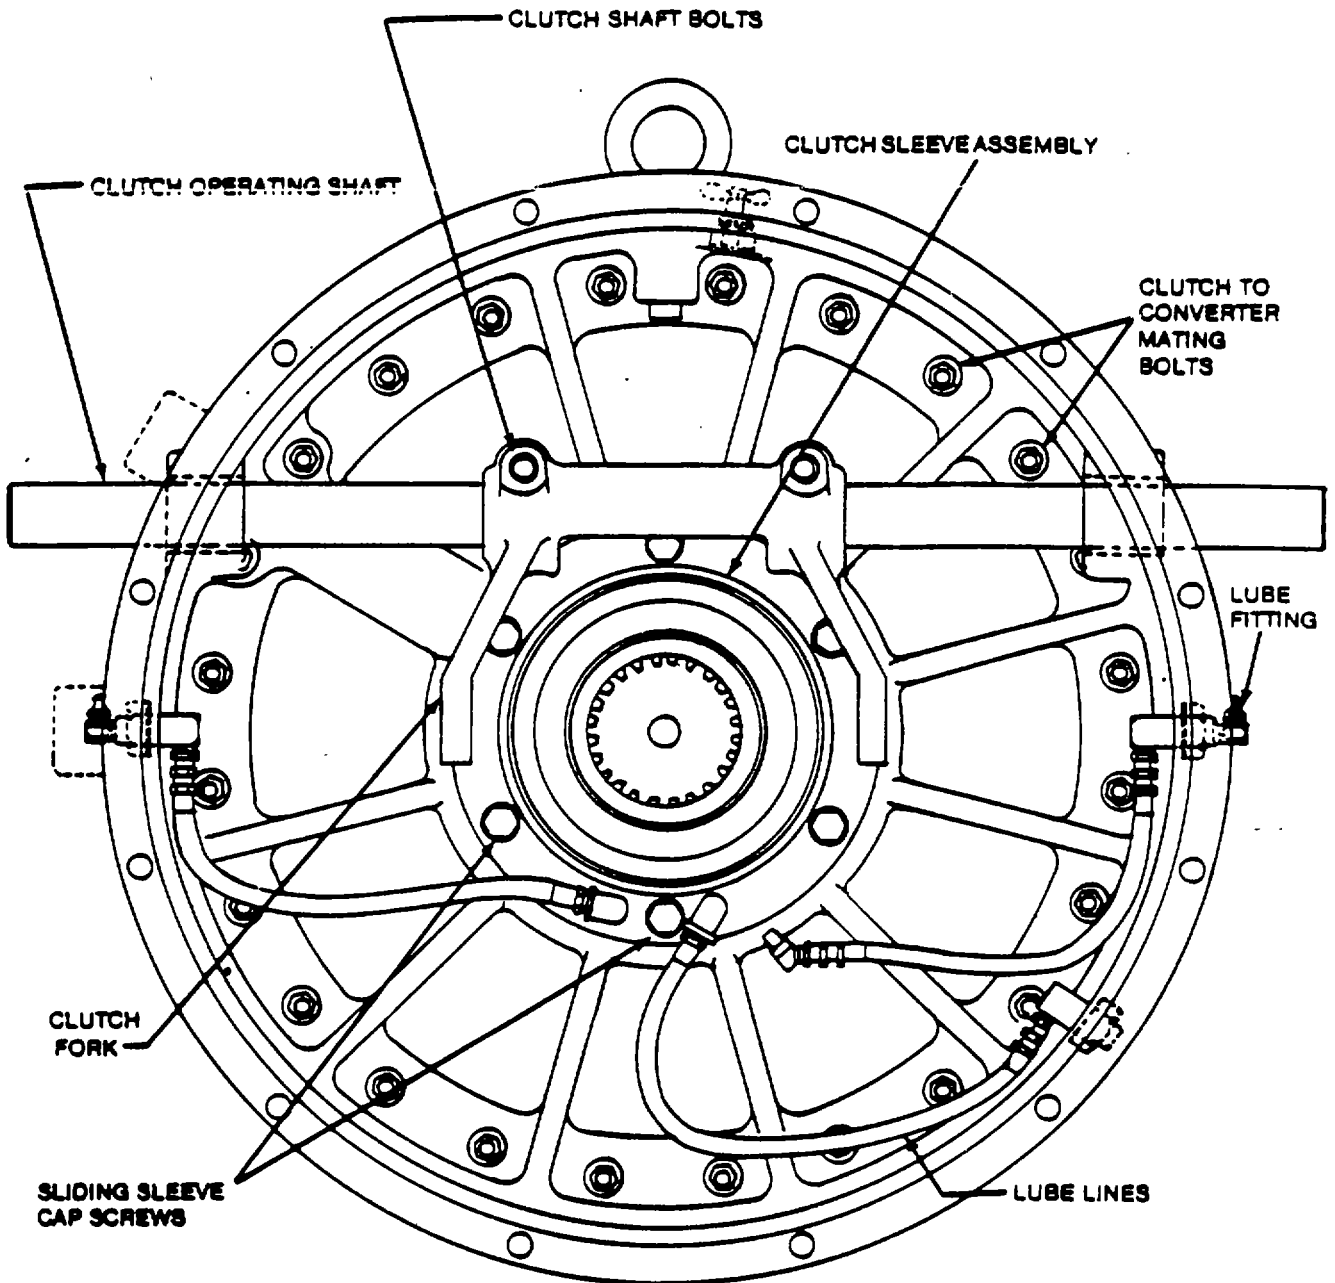

Figure 5-39. Clutch Assembly Removal.
- (1) Remove operating shaft and throwout fork from housing (Figures 5-39 and 540).
- (2) Remove the six capscrews retaining sliding sleeve carrier. Using jack screws in two tapped holes provided, separate carrier from clutch housing and remove carrier with input shaft.
- (3) Press input shaft and input shaft bearing out of sliding sleeve carrier.
- (4) Remove impeller lock nut, lock washer and spacer and press impeller out of impeller bearing.
- (5) Remove six socket head capscrews retaining seal carrier to end plate and remove seal assembly.
- (6) Remove impeller bearing.